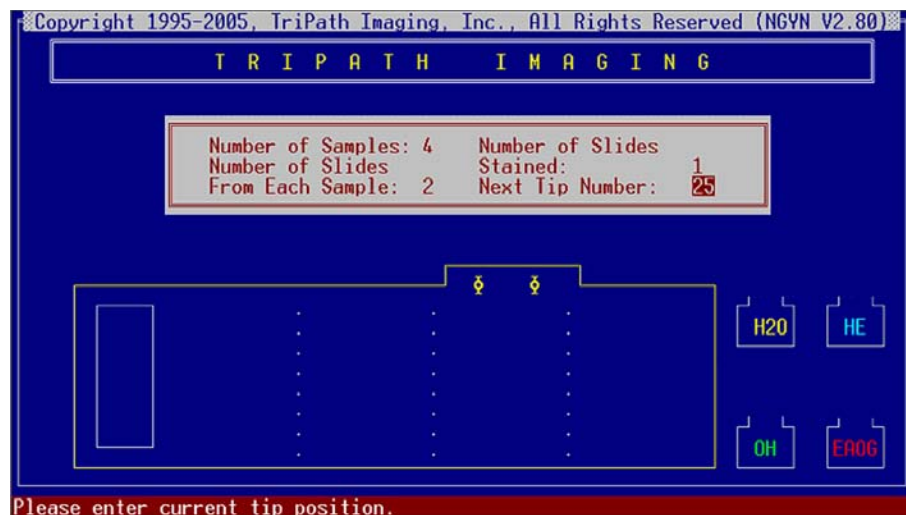

Figure 3-3 Number of Samples screen
3. Select **Sample Preparation**, and then press **Enter**. The Number of Samples screen (illustrated in *Figure 3-3*) is displayed.